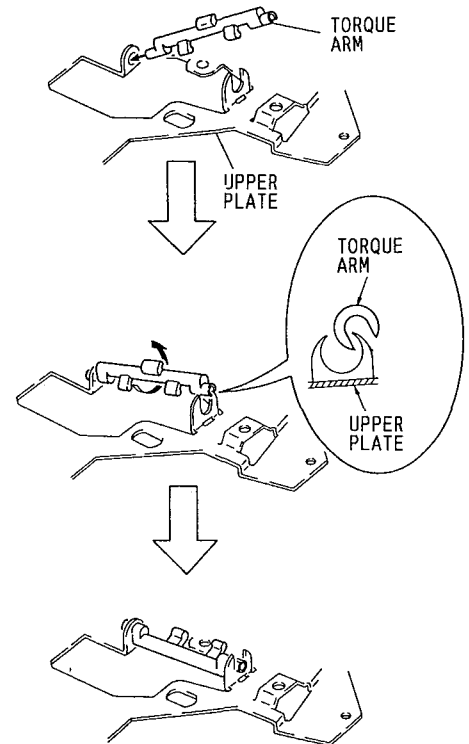

Fig. 4-10
- 2) Fit the torque arm to the upper plate as shown in Fig. 4-10.